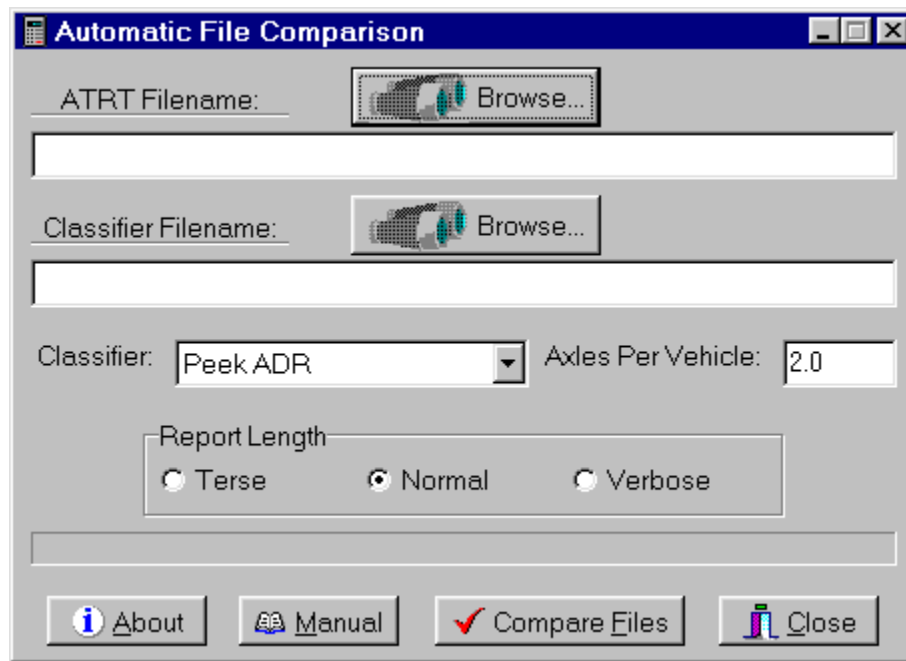

Figure 19. Auto compare setup
- 3) Fill in the distances between the sensors. The first distance is measured from the leading edge of the first sensor that the traffic will encounter to the leading edge of the second sensor that the traffic will encounter (5' ). The second distance is measured from the leading edge of the second sensor that the traffic will encounter to the leading edge of the third sensor that the traffic will encounter (11' ). The loop length is measured from one end of the loop to the other. (See Figure 19 above)
The Auto Compare software is a valuable tool to quickly compare an ATRT test report with the classifier report and generate a comparison report. The Quick Reference Guide that accompanies your tester steps you through preparing the classifier's report file for use with the Auto Compare Software. The *Manual* button shown in Figure 19 opens a PDF version of the Quick Reference Guide if you cannot locate your copy.
Figure 19 shows the opening screen of the Auto Compare software. The top half of the window displays fields for typing the filenames of the reports to be compared. Both fields also have an associated *BROWSE* option to allow the user to view the folder which holds test reports.